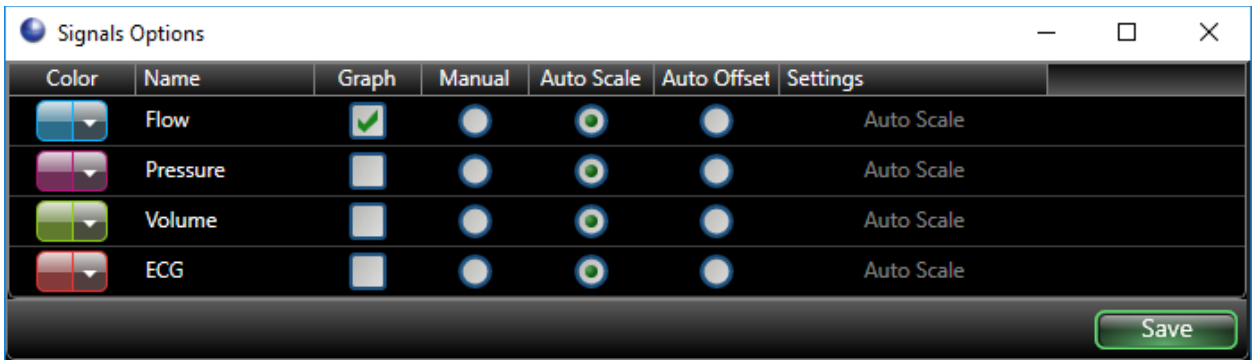

Figure 69. Recommended Signal Options for RC applications.
2. Select the recommended Signal Options as indicated in Figure 69.